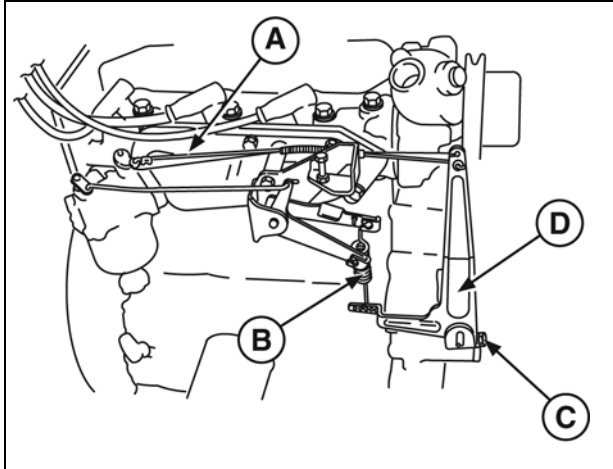

Figure 6
- Remove governor link spring (**A**, Figure 6) and governor link from carburetor.